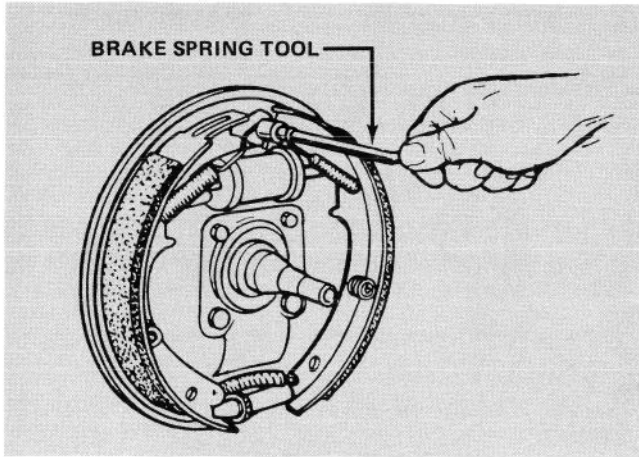

Figure 102
4. Remove shoe return springs (Fig. 102) and automatic adjuster spring. Then remove automatic adjuster cable, cable guide, adjuster lever and shoe guide plate, if used.